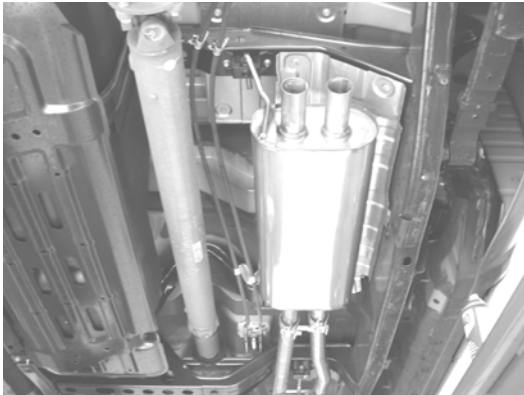

Figure 9
3. Place a clamp over the expanded end of each muffler inlet pipe and set the muffler assembly into position as shown in figure 9. DO NOT tighten the clamps.